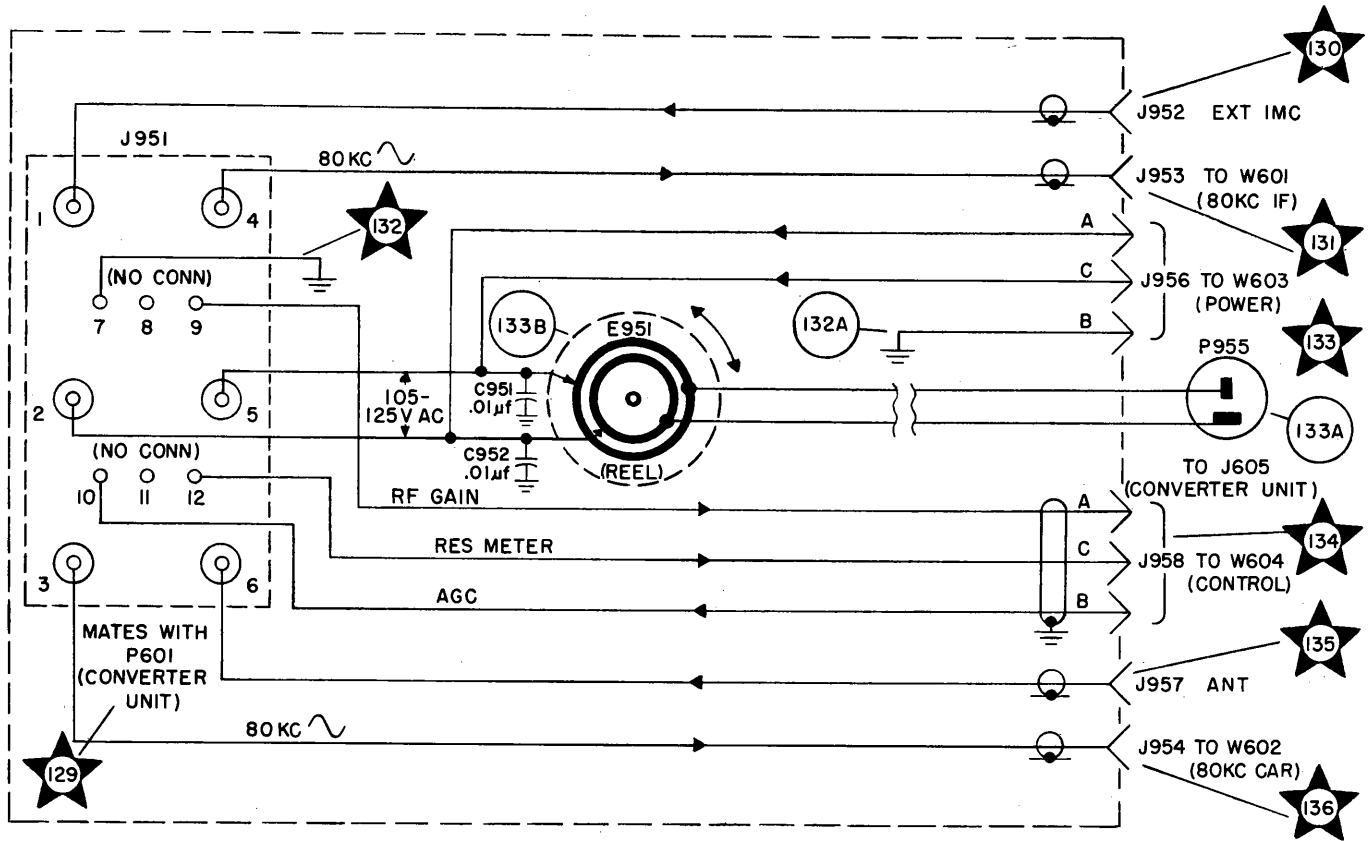

Figure 5-74. Converter Blister, Functional Schematic Diagram
*a.* FUNCTION.—The converter blister is a junction box for cable connections to and from the converter and between the converter and the demodulator. Faulty operation of its circuits will seriously impair, or fully disable, receiver operation. Figure 5-74 is a functional schematic diagram of the converter blister circuits.